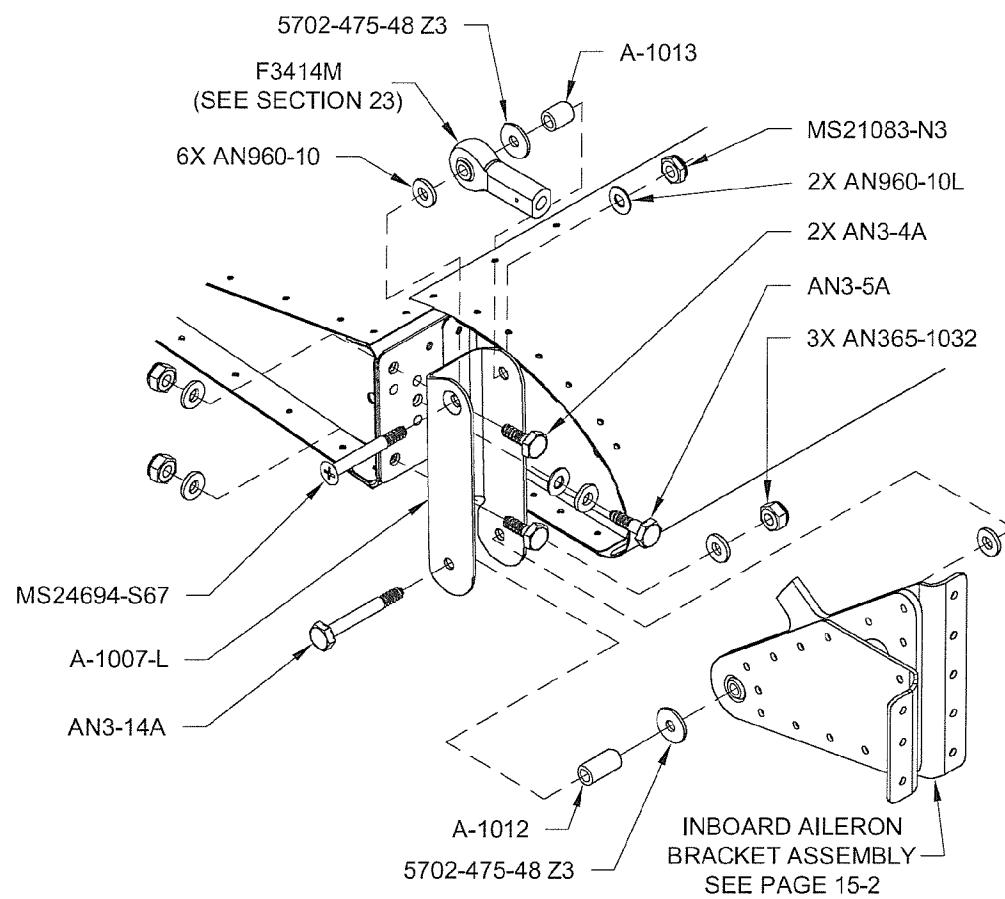

FIGURE 3: ATTACH INBOARD HINGE BRACKET
Step 2: Install the A-1007-L Inboard Hinge Bracket as shown in Figure 3.
The hardware called-out in Figure 3 for attachment of the inboard hinge bracket to the wing will be used during completion of the aileron actuation system as covered in Section 23.